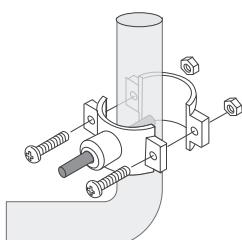

Figure 9
3. Slip the front plate over one end of the tubing (without a mark) and insert the tubing into the drilled hole for about 0.6" (**Figure 9**).